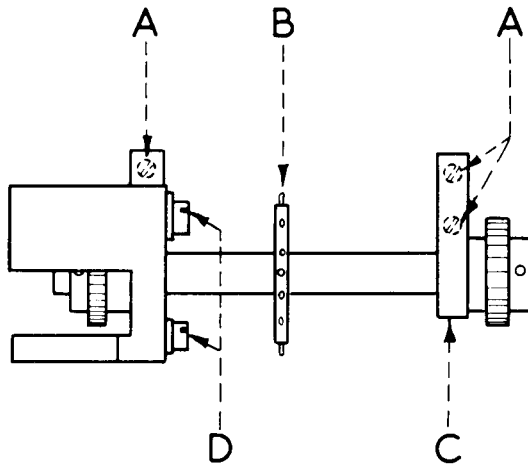

FIG. 4a
2.2 If necessary, slacken screws A, Fig. 4A, and adjust the position of the bearing blocks C to satisfy this condition. Tighten screws A."
4.3 If either of these conditions is not satisfied, slacken screws A, Fig. 4A, until bearing blocks C are friction tight and reposition the blocks until both requirements are met. Tighten screws A and recheck adjustment 2."